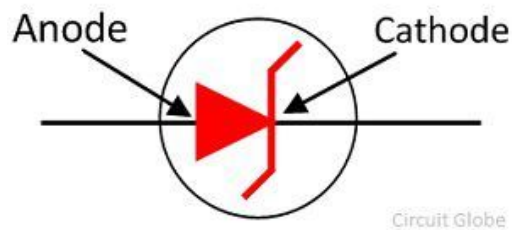

Figure 1. Zener Diode Symbol
- Figure 1. Zener Diode Symbol